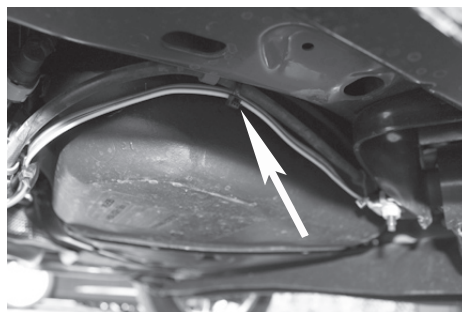

Figure 5
9. Underneath vehicle locate 4-Flat wire that was passed through grommet in Step 8. Route along brake lines shown in **Figure 5** and secure to brake line brackets with cable ties.